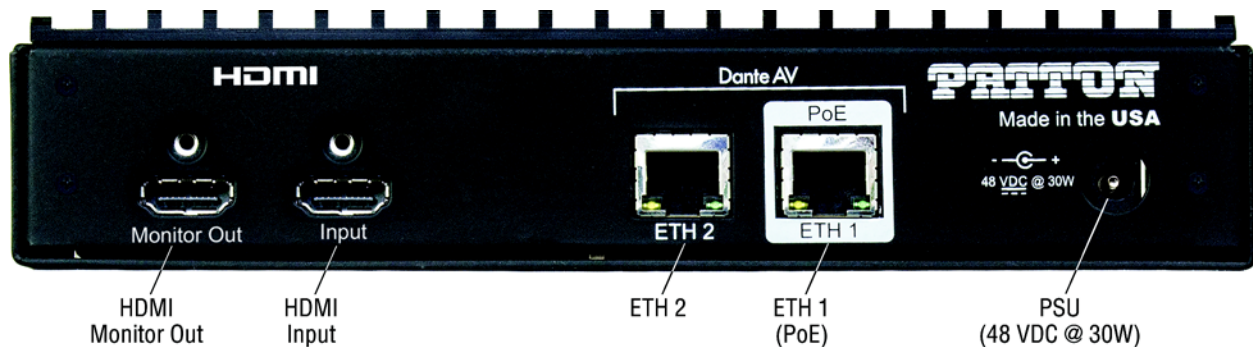

Figure 5. Encoder rear panel ports
Rear panel ports of the FPX6000 Series Encoder are shown in figure 5 and described in table 1.
2. If you are installing an FPX6000 Decoder, go to step 3. Otherwise, install cables on the rear panel of the FPX6000 Encoder (see figure 5 on page 17) as follows: